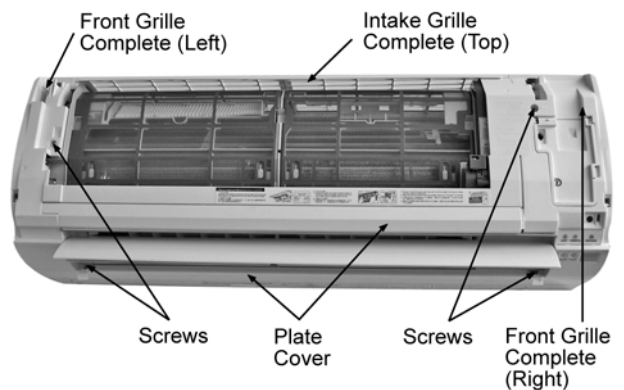

Fig. 2
- 2. Remove the Intake Grille Complete (Top). (Fig. 2)
- 3. Remove the Front Grille Complete (Right) by releasing the 2 screws. (Fig. 2)
- 4. Remove the Front Grille Complete (Left) by releasing the 2 screws. (Fig. 2)
- 5. Remove the 2 Plate Cover. (Fig. 2)